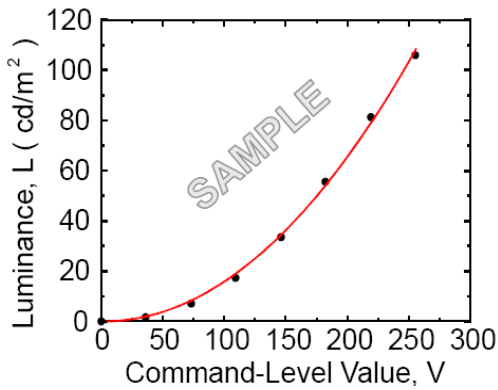
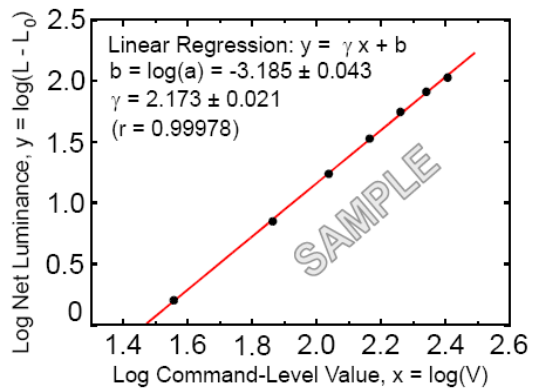

FIG.11 Sample Luminance vs. gray scale (using a 256 bit gray scale)
FIG.12 Sample Log-log plot of luminance vs. gray scale
7. GSR is the rate of gamma shift at up, down, left and right 60 degree viewing angle compare with center gamma. For more information see FIG.11 and FIG.12
The GAMMA we calculate from the log-log representation (FIG.11)